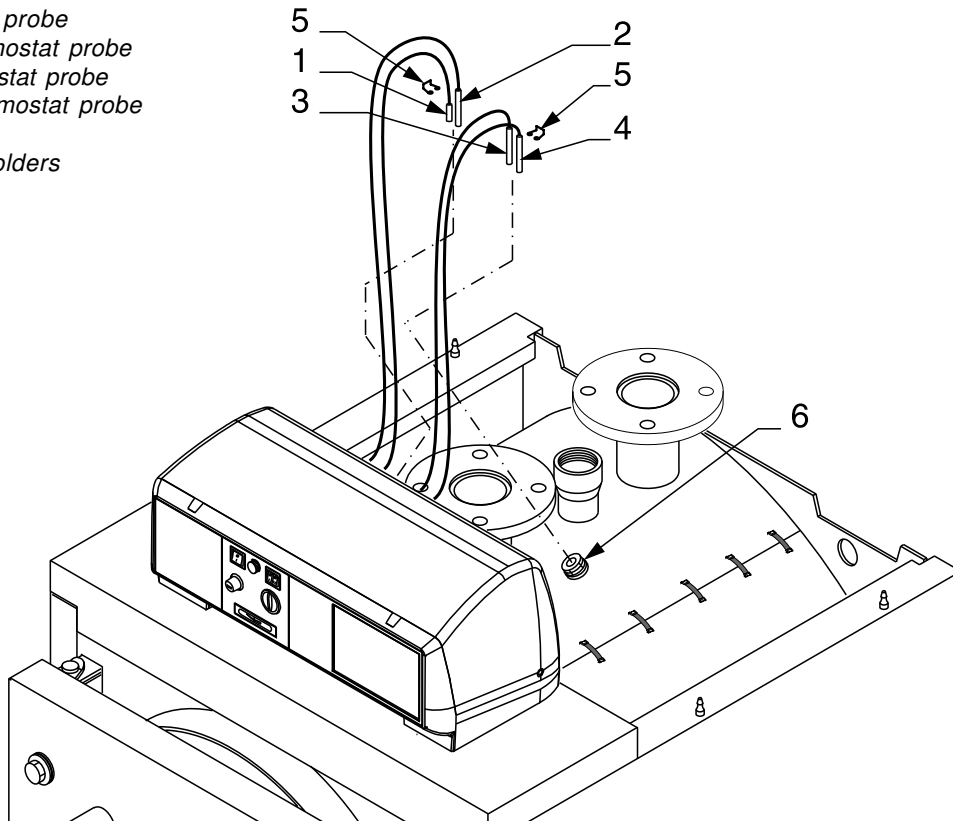

fig. 22
- E) Insert into the conduits the bulbs of the instruments as indicated in fig. 22 and wire the panel board to the power line, to the burner and to any pumps, etc.
- A) Mount the insulation (pos. 1) of the boiler body and secure the 2 edges with the elastic straps (pos. 2) supplied in the accessory box, hooking them to the external fabric part of the insulation.
- B) Position the side panels (pos. 3a, 3b and 4a, 4b) with the lower bend inside the L-shaped profile at the base of the boiler body and hook the upper part to plate junction profiles.
- To determine which is the right side and which is the left side, refer to the cable gland plates on the front panels (pos. 5): they must face the front of the boiler.
- Fasten the 4 countersunk screws (pos. 7) to the two sides 3b and 4b on the inner rear side.
- C) Fit the upper rear panel (pos. 8) to the screws pos. 7.
- Fit the panel board to the upper panel (pos. 10.)
- Fit the upper panel pos. 10, complete with panel board, to the two sides of the casing.
- E) Insert into the conduits the bulbs of the instruments as indicated in fig. 22 and wire the panel board to the power line, to